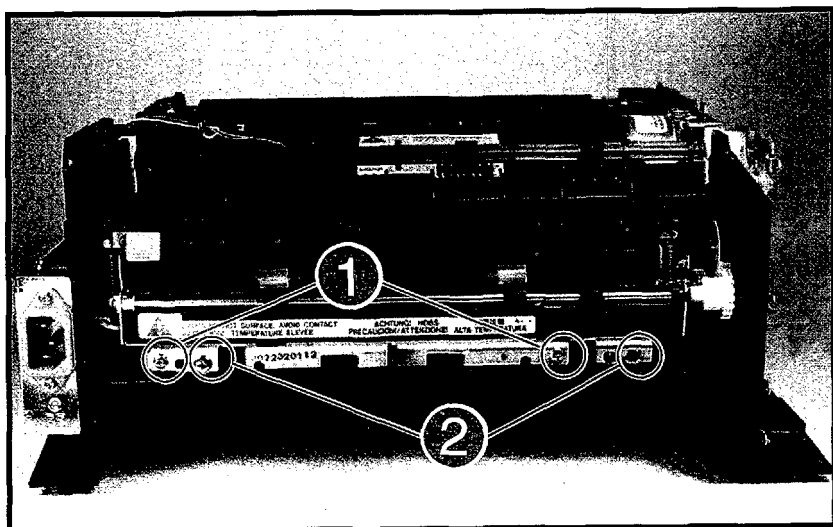
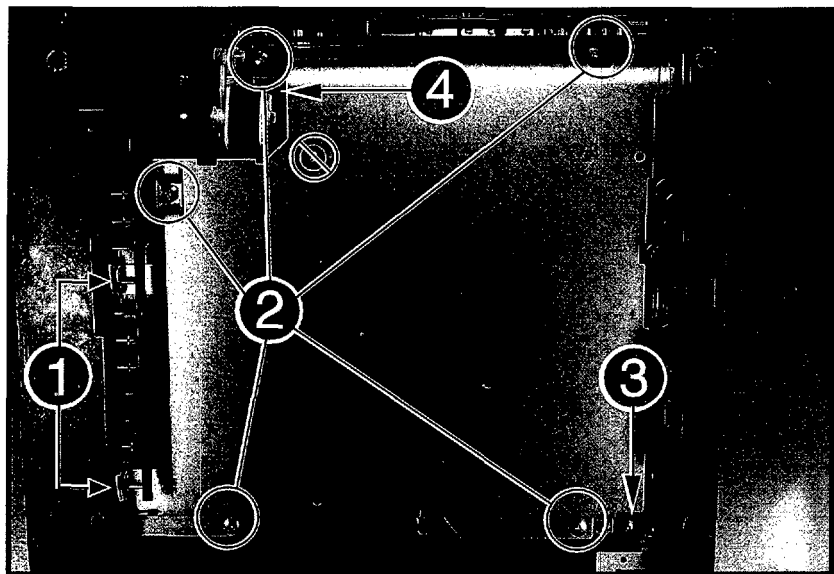
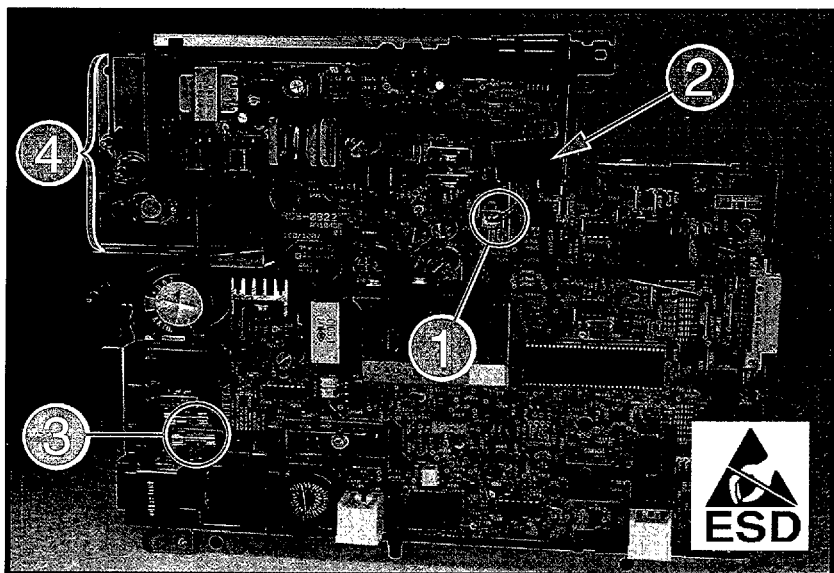
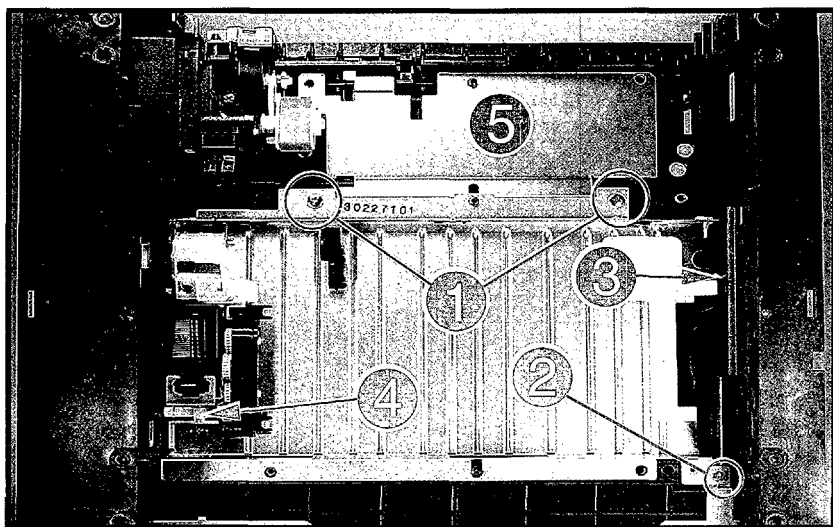

Figure 6-27 Removing the Fusing Assembly (LaserJet 4P shown)
Figure 6-36 Removing the DC Controller Assembly
Figure 6-37 Pickup Feed Roller Solenoid (on DC Controller PCA)
Figure 6-44 Removing the Feeder Guide Assembly (LaserJet 4P shown)
2. Remove the machine screws with star washers (1 on 4L/4ML, 2 on 4P/4MP) (Figure 6-27, callout 1).
3. Remove the (2) self-tapping screws (Figure 6-27, callout 2).
1. Remove the Printer Cover, the Fusing Assembly (Figure 6-27), the Formatter Shield and PCA (Figure 6-13), and the Power Switch Assembly (*LaserJet 4P/4MP only* - Figure 6-23).
2. Remove the (2) screws that attach the grounding springs to the Gear Train Assembly (Figure 6-36, callout 1).
3. Remove the (5) self-tapping screws and the (1) machine screw from the bottom of the DC Controller Assembly (Figure 6-36, callouts 2 and 3). Do not remove the Pickup Solenoid screw (crossed circle in Figure 6-36).
4. Push the Pickup Feed D-Roller solenoid arm in and rotate the D-Roller down, clear of the solenoid arm (Figure 6-36, callout 4).
When removing the DC Controller Assembly there will be resistance where the connectors are attached (on the left in Figure 6-36). A firm tug may be necessary to free the assembly.
When reinstalling the DC Controller, be sure to use a short length (6 mm) machine screw at Figure 6-36, callout 3. A longer (10 mm) screw will obstruct the Fusing Assembly.
1. Remove the Fusing Assembly (Figure 6-27), the Formatter Shield and PCA (Figure 6-13), and Power Switch Assembly (*LaserJet 4P/4MP only* - Figure 6-23), and the DC Controller Assembly (Figure 6-36).
2. Remove the (1) machine screw holding the Pickup Solenoid from the lower side of the DC Controller Assembly (the crossed circle shown in Figure 6-36).
3. Unplug the Pickup Solenoid connector (Figure 6-37, callout 1) and remove the solenoid (Figure 6-37, callout 2).
There are two in-line fuses (one on 220 V units) on the component side of the DC Controller PCA (shown in Figure 6-37, callout 3). (The rated amperages are printed on the PCA.) Pull outward to remove.
This assembly is mounted on the component side of the DC Controller PCA, and provides high voltage contact points to the toner cartridge (shown in Figure 6-37, callout 4). To remove, press the two tabs in on either side of the cover and lift it straight up and off.
2. Remove the DC Controller Assembly (Figure 6-36), Pickup Solenoid, and High Voltage Connector Assembly (Figure 6-37).
1. Remove the Printer Cover, the Fusing Assembly (Figure 6-27), the Formatter Shield and PCA (Figure 6-13), the Power Switch Assembly (*LaserJet 4P/4MP only*- Figure 6-23), and the DC Controller Assembly (Figure 6-36).
1. Remove the Printer Cover, the Fusing Assembly (Figure 6-27), the Formatter Shield and PCA (Figure 6-13), the Power Switch Assembly and Font Cartridge Bracket (*LaserJet 4P/4MP only*-Figure 6-23 and 6-16), and the DC Controller Assembly (Figure 6-36).
2. Remove the (2) self-tapping screws and the (1) machine screw from the Feeder Guide (Figure 6-44, callouts 1 & 2).
3. *LaserJet 4P/4MP*: Push the power switch grounding strap outward to provide clearance (Figure 6-44, callout 3).
*LaserJet 4P/4MP*: Carefully free the Small Media Roller drive shaft before lifting upward to avoid damage (Figure 6-44, callout 4).
*LaserJet 4P/4MP*: Carefully align the Small Media Roller drive shaft (Figure 6-44, callout 4) before installing the Feeder Guide.
1. Remove the Printer Cover, the Fusing Assembly (Figure 6-27), the Formatter Shield and PCA (Figure 6-13), the Power Switch Assembly (*LaserJet 4P/4MP only*- Figure 6-23), the DC Controller Assembly (Figure 6-36), and the Feeder Guide Assembly (Figure 6-44).
Carefully align the Small Media Roller drive shaft (Figure 6-44, callout 4) before sliding the Feeder Guide into place.
2. Remove the Laser/Scanner Assembly (Figure 6-21), the Gear Train Assembly (Figure 6-15), the DC Controller Assembly (Figure 6-36), and the Feeder Guide Assembly (Figure 6-44).